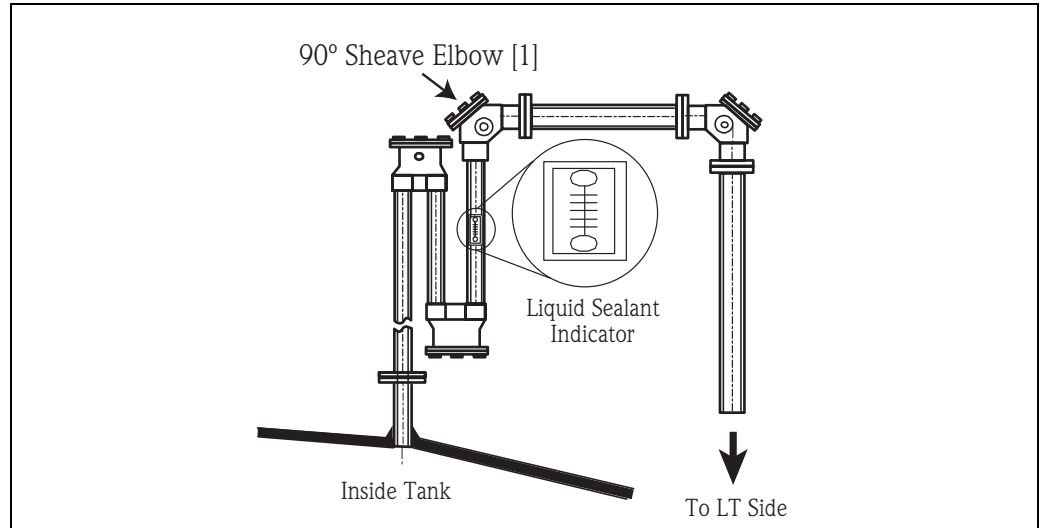

Figure 39: Filling Seal Pot with Liquid Sealant
3. After LT operation check, remove the sheave elbow cover [1] and fill with liquid sealant (refer to Figure 39).